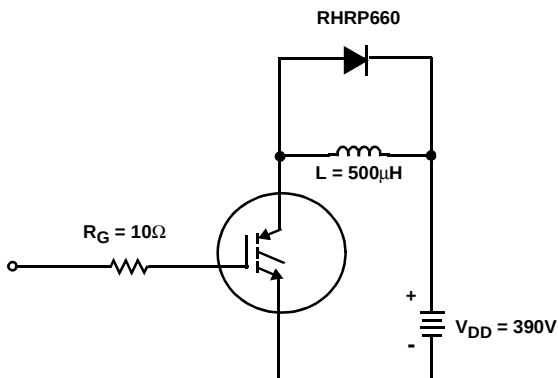

FIGURE 20. INDUCTIVE SWITCHING TEST CIRCUIT
| Current Turn-On Delay Time              | $t_{d(ON)I}$  | IGBT and Diode at $T_J = 25^{\circ}\text{C}$$I_{CE} = 12\text{A}$$V_{CE} = 390\text{V}$$V_{GE} = 15\text{V}$$R_G = 10\Omega$$L = 500\mu\text{H}$Test Circuit (Figure 20) | -   | 17  | -         | ns            |
| Current Turn-On Delay Time          | $t_{d(ON)I}$    | IGBT and Diode at $T_J = 125^{\circ}\text{C}$$I_{CE} = 12\text{A}$$V_{CE} = 390\text{V}$$V_{GE} = 15\text{V}$$R_G = 10\Omega$$L = 500\mu\text{H}$Test Circuit (Figure 20) | -   | 17  | -    | ns                   |
- Values for two Turn-On loss conditions are shown for the convenience of the circuit designer.  $E_{ON1}$  is the turn-on loss of the IGBT only.  $E_{ON2}$  is the turn-on loss when a typical diode is used in the test circuit and the diode is at the same  $T_J$  as the IGBT. The diode type is specified in Figure 20.